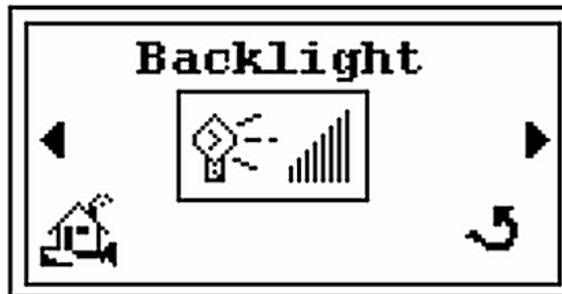

Figure 2-39 Backlight Screen
2. Press the  and the *Backlight* screen appears (Figure 2-39).